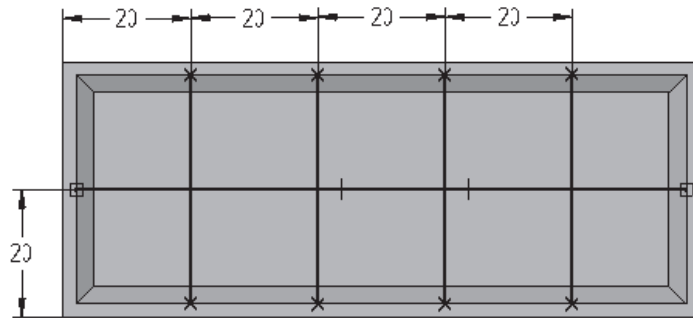

Figure 7-70 Sketch for the web network
- Create a web network in the model, refer to Figures 7-70 and 71.
3. Draw the profile of the web network, as shown in Figure 7-70.